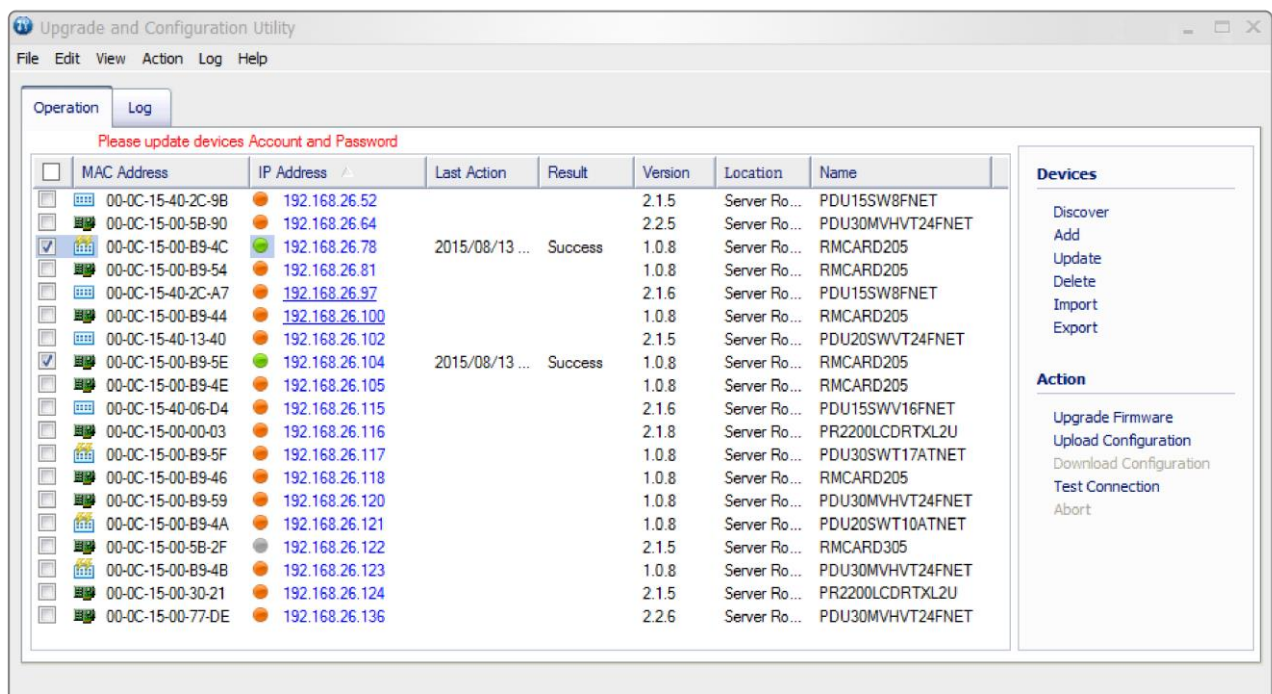

Figure 9. Firmware upgrade success in the main window.
8. If the firmware upgrade is implemented, you will see the Result in the main window, as shown in Figure 9.